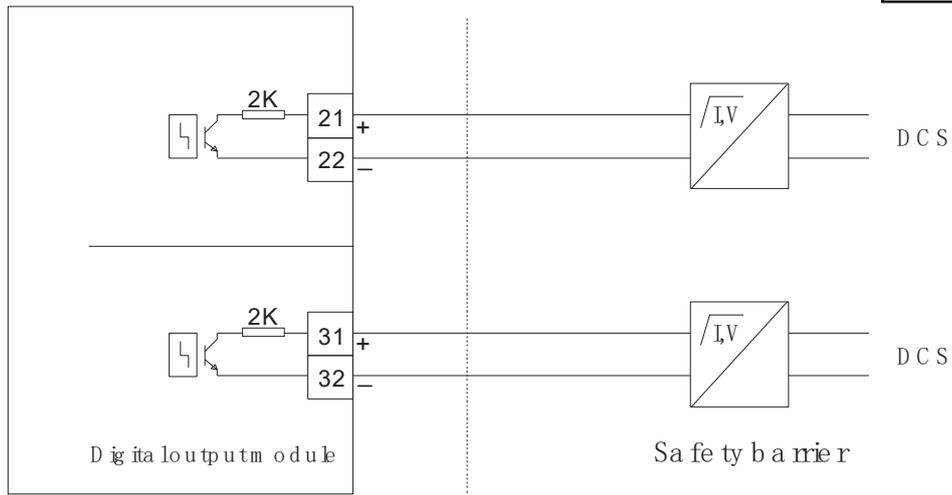

Fig.4-9 Digital output module electrical connection
4.4.2.2 Digital output module electrical connection (Fig.4-9)